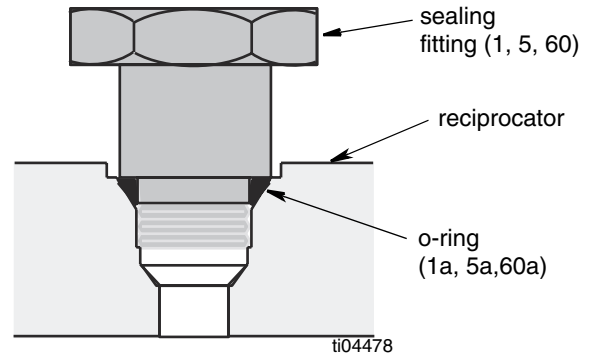

FIG. 4
See FIG. 4 and Reciprocator parts drawing, page 18.
1. Place adapter (43) in a vise. Remove four cap-screws (46). Pull bottom cap (32) off adapter (43). If needed, replace seals as described on page 10.
2. Loosen both nuts on fluid tube (45). Use a wrench to rotate tube fittings (1, 60) to the side and then remove tube (45). Check o-rings (1a, 60a) on fittings and replace them if they are worn or damaged. Install plugs in fittings to prevent contamination. See FIG. 4 and Reciprocator Parts drawing, page 18.
3. Remove capscrew (3), nuts (36) and lockwashers (37) on top of reciprocator.